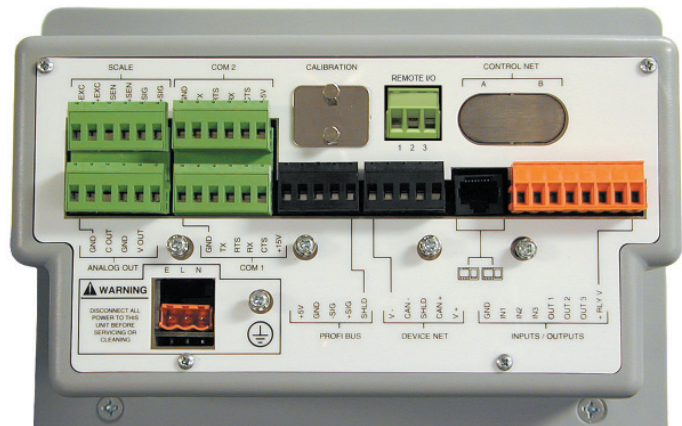

Figure 1
2. Connect all necessary cables to the appropriate connector on the back of the indicator. See Figure 1. The function of each connector and pinout is clearly marked.